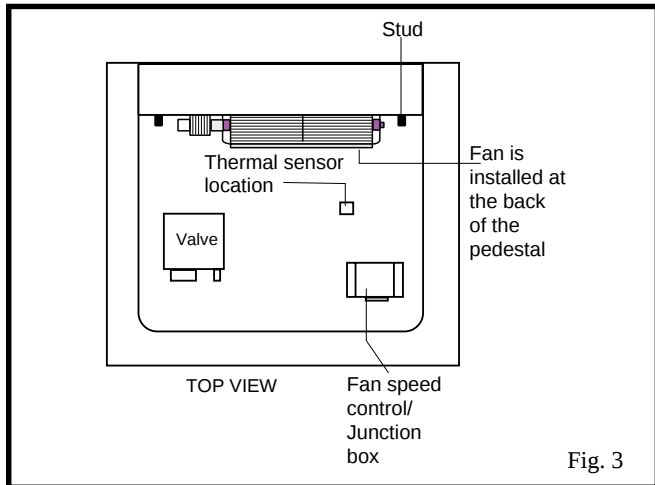

Fig. 3
2. Fig. 3. Install the fan through the opening at the back of the pedestal, with the outlet pointed up and the fan mounting bracket facing the back of the fireplace. The fan mounts over two studs which hold the fan just below the firebox floor. Hold the fan in place with the two nuts provided.